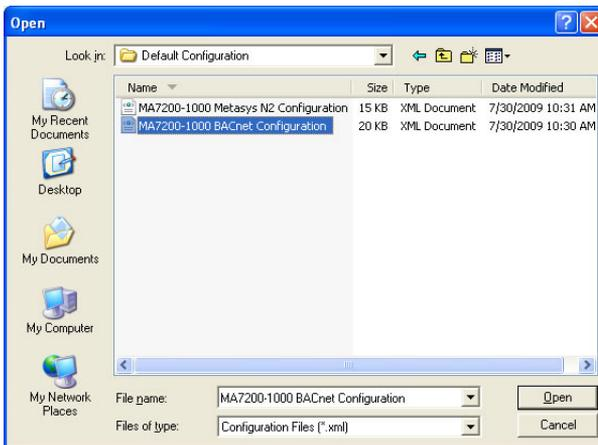

Figure 8: Select Predefined Configuration File
5. Select the desired predefined configuration file and then click the “Open” button. In this example, we will be selecting the predefined BACnet MS/TP configuration (Figure 8).